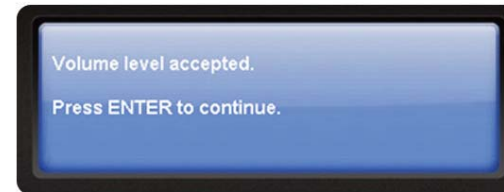

Figure 5.16
**Tip** If you see the Clip LED light up during this step, your volume level is probably just fine, and you should use this volume level regardless of what ERGO displays (Figure 5.16). Press **Enter** to continue.